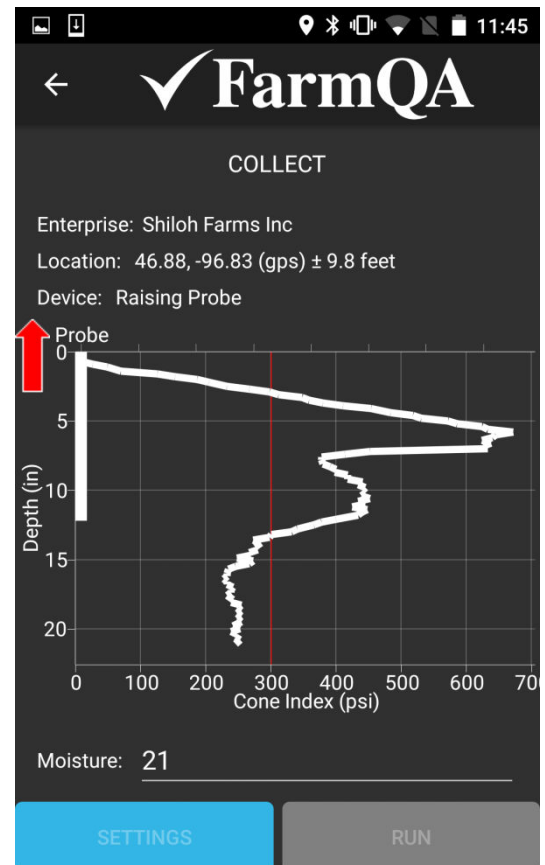

FIGURE 21
34. After the probe reaches the max depth the Device status changes to “Raising Probe” (**Figure 21**) and a red up arrow appears. The probe depth is still shown with the white bar on the left side of the graph. The depth of “0” is when the probe tip is at ground level. The probe still needs time to rise to the fully up position so the probe doesn’t get bent when you move the vehicle.